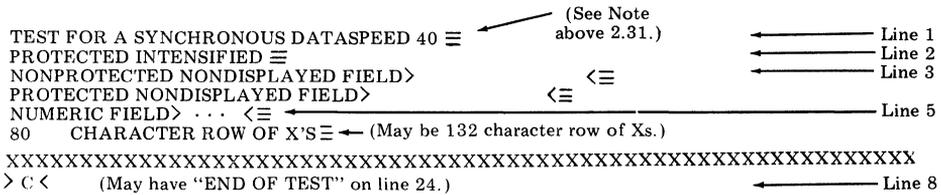

Fig. 7--SYNC 40 Test Message
2.20 Check for correctness of display and station options (Fig. 7):
Line 1 is copied as shown (Fig. 7).
Lines 3 through 8 are as shown in Fig. 7; the cur-